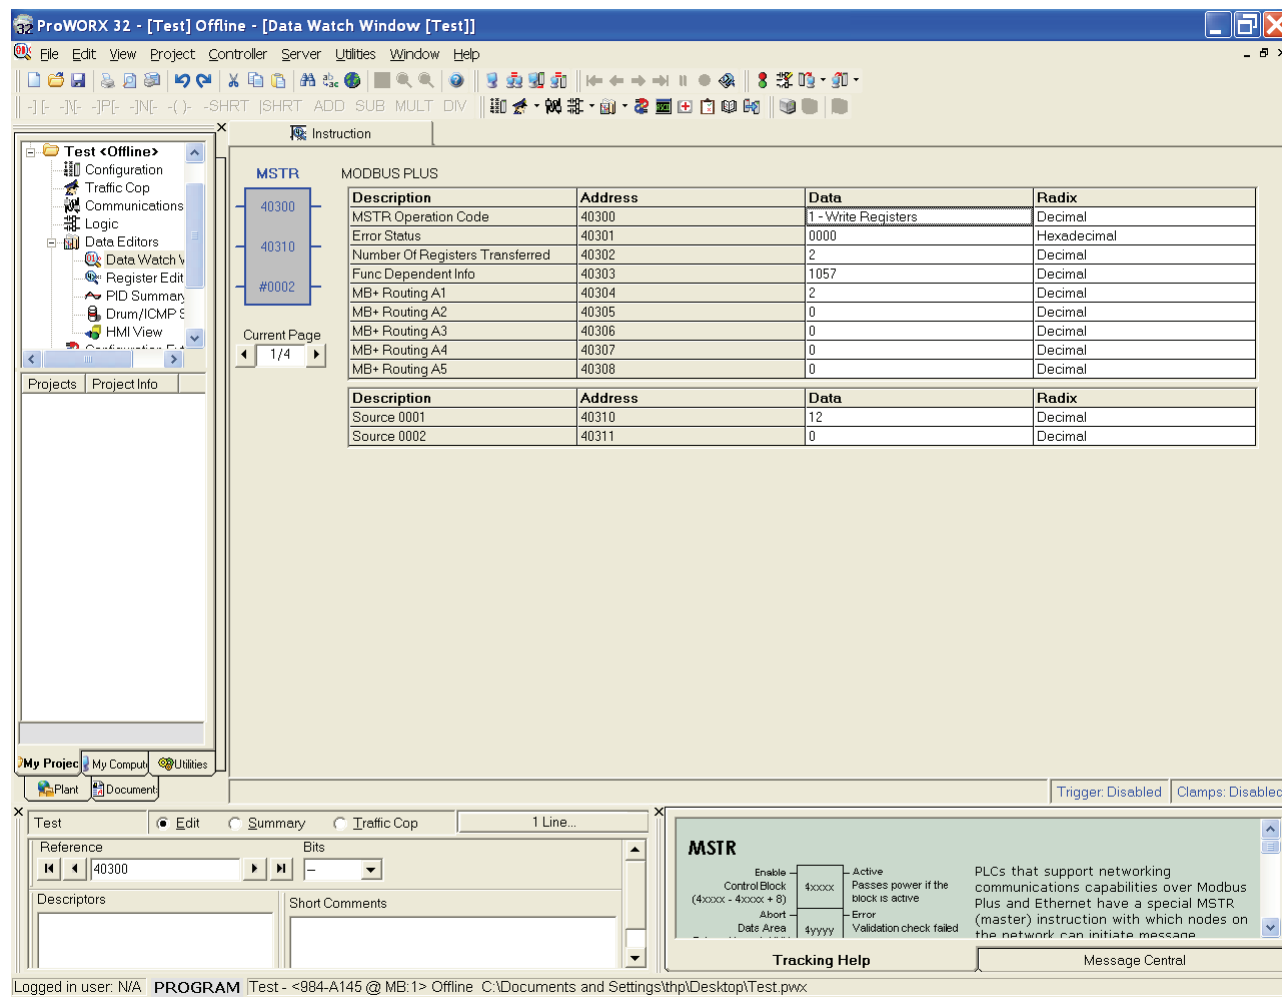
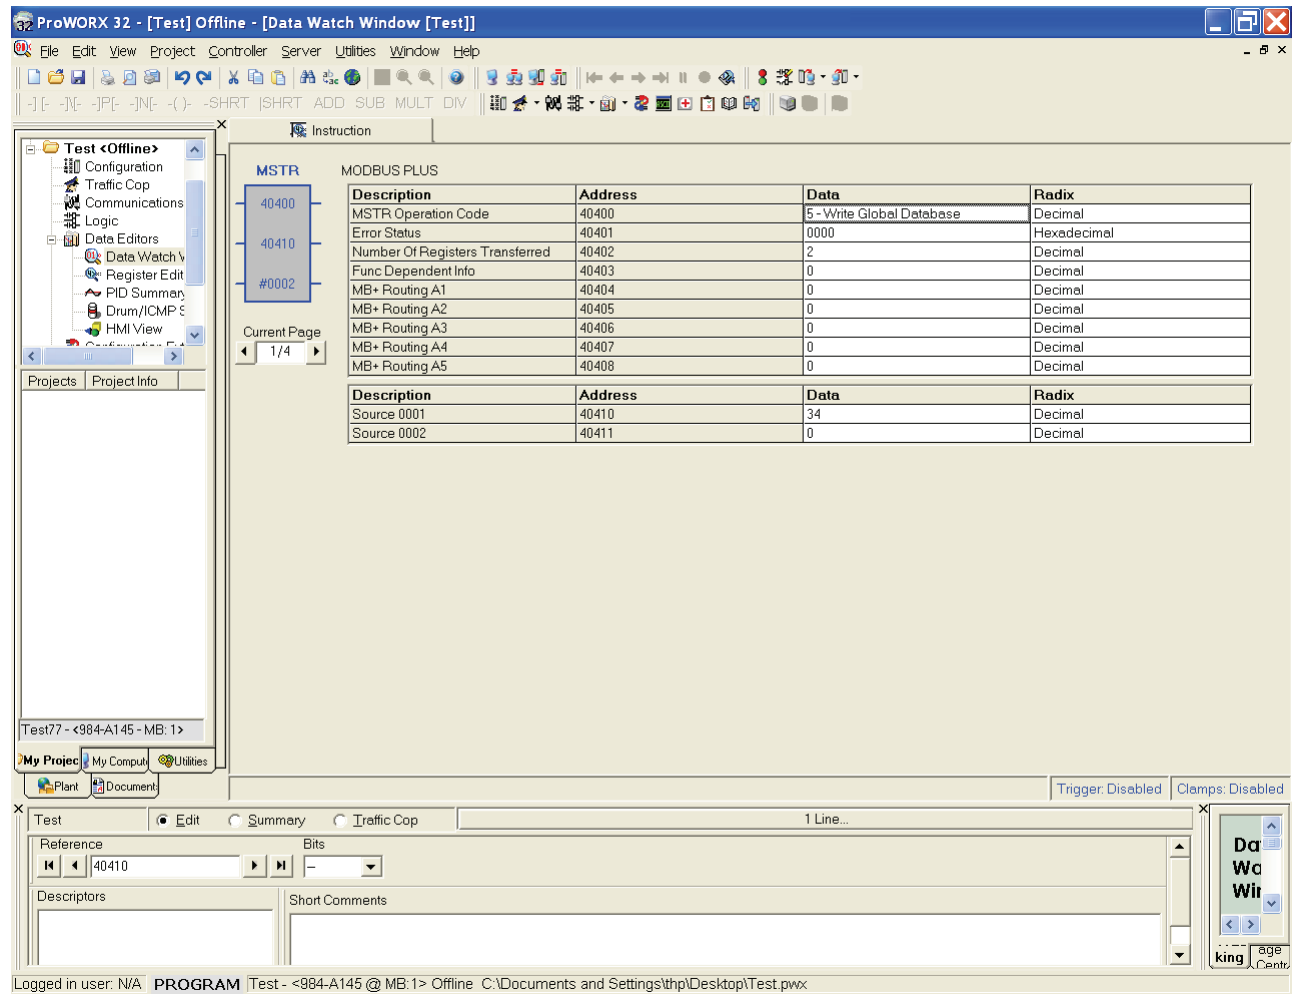

Figure 29 Writing Peer-To-Peer Data.
Figure 30 Writing Global Data.
The window above shows the data from the PLC represented as Global ❶ and Peer-To-Peer Data ❷. The data values are corresponding to the data values seen in Figure 29 Writing Peer-To-Peer Data. and Figure 30 Writing Global Data.